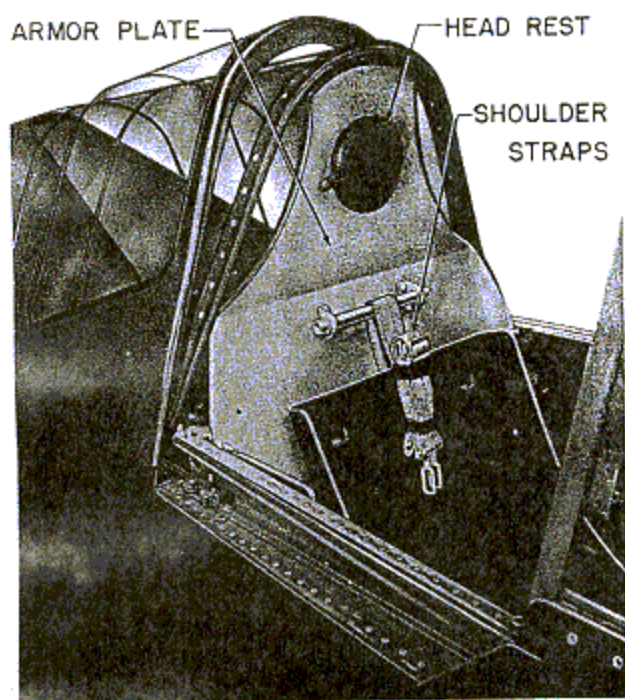

Figure 294—Pilot's Seat Installed
(6) MAP CASE.—The map case is located in the cockpit on the right side of the pilot's seat.
(7) HEAD REST.—The pilot's head rest is bolted to the armor plate at station 5 bulkhead just above the parking harness stowage on airplanes AF42-104429 through AF42-104828, but on airplanes AF42-104829 and subsequent, the pilot's head rest is fastened by "safety pins" to plugs welded to the armor plate at station 5 bulkhead. (See figure 294.)
(8) STATIC GROUND.—A static ground is attached to the underside of the fuselage, forward of the tail wheel doors.
(9) REAR VIEW MIRROR.—A rear view mirror is held by clips fastened to a bracket installed inside the cockpit on the upper windshield section at the center line.
(10) ANTI-GLARE SHIELD.—An anti-glare shield is attached to the fuselage and gun sight mount assembly.
(11) FIRST AID KIT.—Provisions for attaching the first aid kit to the side of the map case is made on airplanes AF42-104429 through AF42-104828. On airplanes AF42-104829 and subsequent, the first aid kit is stowed in the duffle bag.